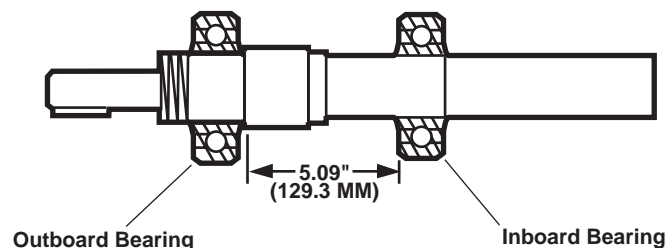

Figure 3. Bearing Placement
- Put layout dye onto the shaft (figure 1, item 11) and scribe a line in the layout dye for the location of the inboard bearing (figure 1, item 24). Refer to figure 3.
6. Press the outboard bearing (figure 1, item 31) onto the shaft (figure 1, item 11) using an arbor press. Press the outboard bearing up to the shoulder of the shaft. Refer to figure 3. Lubricate the outboard bearing using lubricating oil.